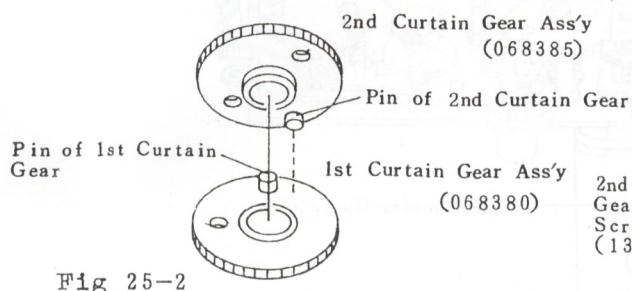

Fig 25-2
- d) Install to the 2nd Curtain Gear Ass'y (068385) to the correct position and direction as shown in (Fig 25-2).